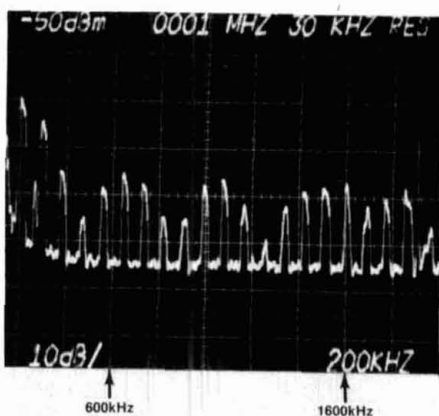

fig. 3. RF lighting device emissions (courtesy *Broadcast Engineering*).
*The pending introduction of RF lighting technology will significantly cut energy costs, by replacing the ubiquitous incandescent light bulb with RF devices. Unfortunately, many RF lighting devices emit energy at AM broadcast frequencies, both over the air and through the power line [fig. 3]. A current FCC Notice of Inquiry is exploring the issues of lighting, the need for regulation of such equipment, and interference protections to be provided to the AM radio service.*
Well said! But a glance at the right-hand portion of the plot of fig. 3 shows that RF emissions continue well above 1600 kHz, into the HF spectrum and probably the 160-meter and 80-meter Amateur bands.